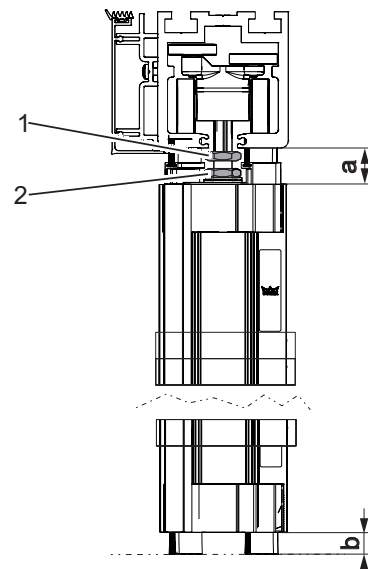

Fig. 23: Height-alignment of the panels
1. On both rollers, loosen the nut (Fig. 23/2) and adjust the screw at the hexagonal (Fig. 23/1) until the height distance to the floor is 10 mm (dimension b). Pay attention to the upper dimension a ( $20 \pm 4$  mm).